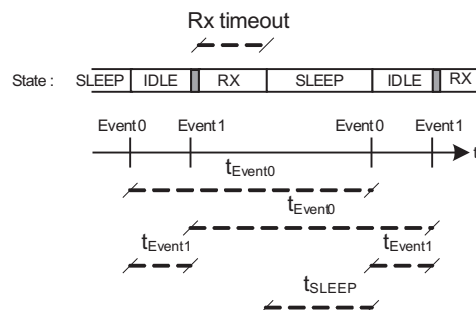

Figure 22-8. Event 0 and Event 1 Relationship
The Event 1 timeout is programmed with WORCTRL.EVENT1. Figure 22-8 shows the timing relationship between Event 0 timeout and Event 1 timeout.
The time from entering the SLEEP state until the next Event 0 (t_{SLEEP} in Figure 22-8) should be larger than 11.72 ms when $f_{\text{ACLK}} = 32.768\text{kHz}$. If t_{SLEEP} is less than 11.72 ms, there is a chance that the consecutive Event 0 will occur $(1 / f_{\text{ACLK}}) \times 128$ seconds too early.
- After a programmable time in RX, the radio returns to the SLEEP state, unless a packet is received. See Figure 22-8 and RX Termination Timer for details on how the timeout works.